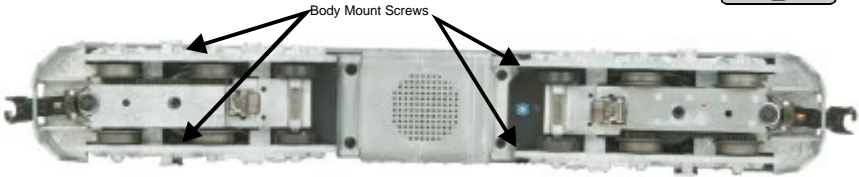

Figure 3: Body Removal Screw Locations
1. To access the gear box, remove the cab from the chassis by unscrewing the chassis screws as seen in Figure 3 and lifting the cab from the chassis.
2. Once the cab is removed, remove the trucks by unscrewing the black Phillips motor mount screw located on the underside of the drive trucks (see Fig. 3).
First, remove the truck sides from the truck block by unscrewing the mounting screws as noted in Figure 3, then remove the 4 screws noted in Figure 5 which will release the truck frames from the truck block.